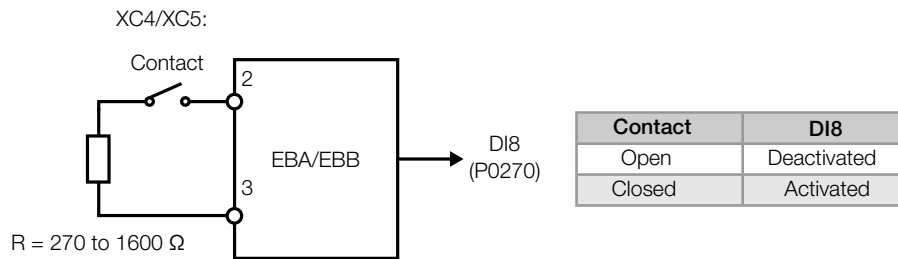

Figure 5.33: DI8 as a normal digital input
- In order to use the DI8 as a normal digital input, program the designated function at P0270, and connect a resistor, ranging from 270 to 1600 Ω , in series with the contact (Figure 5.33 on page 5-55).